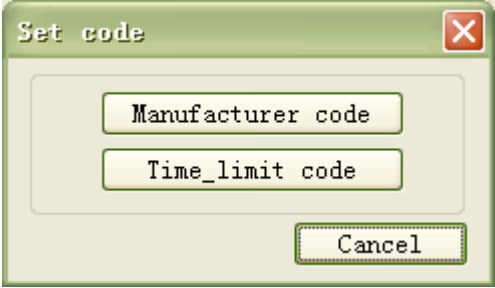
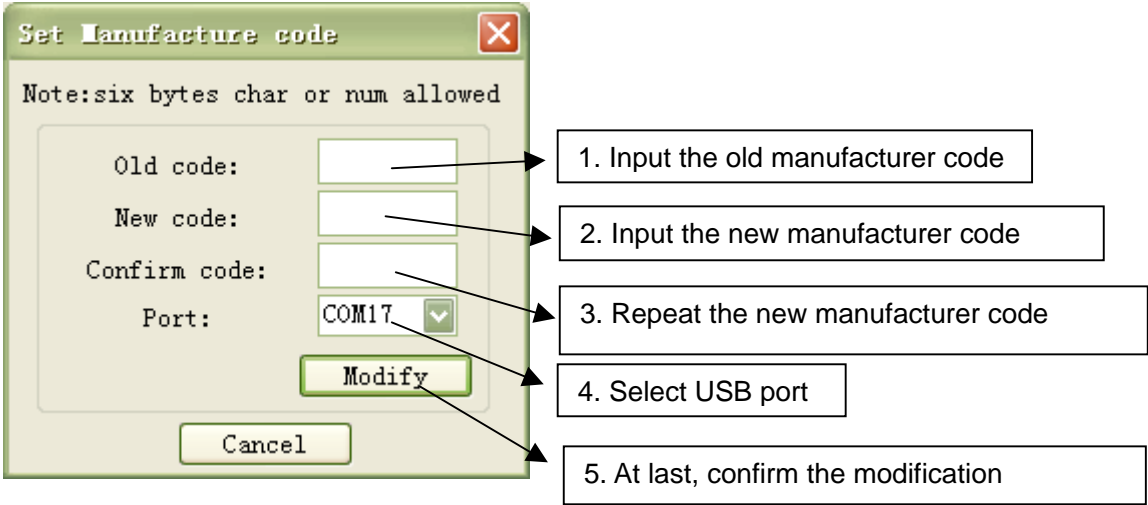
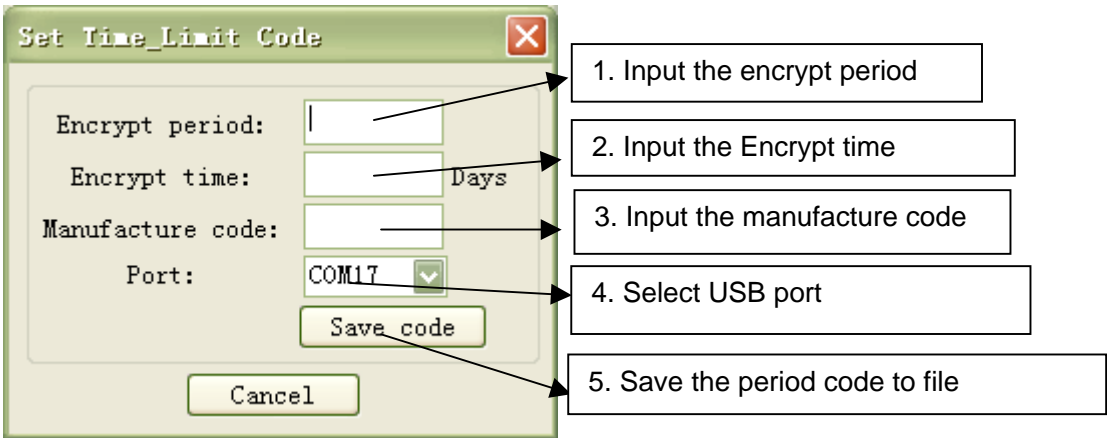

Figure 1-12
Figure1-13
Figure 1-15
- (2) Connect the computer with the laser machine with the USB interface, then input the correct code authorized by the manufacturer and select right USB port, click on the *Ok button*, the dialog box *Code setup* as shown in figure 1-12 will pop up:
Click on the *Manufacture code* button shown in figure 1-12, the dialog box *Setup Manufacturer Code* as shown in figure 1-13 will pop up:
After inputting the *old code*, the *new code*, *confirmed code* and select the *USB port* in turn, click on the *Modify* button as shown in figure 1-13. When the modification is successful, a menu as shown in figure 1-14 will pop up to show that the manufacture code has been modified.
Click on the *Time Limit Code* button in figure 1-12, a dialog box *Setup Time Limit Code* as shown in figure 1-15 will pop up: